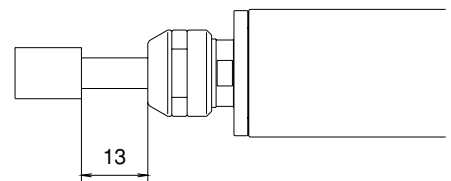

Fig.36
②Do not exceed 13mm overhang for mounted grindstones. In case overhang must exceed 13mm reduce the motor speed in accordance with **Fig.36**.
③Do not use tools with bent or broken shanks, cracks or excessive runout.
④Dress the grindstone prior to use.
⑤For grinding the maximum depth of cut should not exceed 0.01mm radially or axially. Reciprocate the tool several times after each in feed step.
⑥Always operate tools within the tool manufacturer's recommended speed limits. Use of a tool outside of the manufacturer's recommended speed limits could cause damage to the spindle and injury to the operator.
⑦Keep the tool shank and collet clean. If contaminants are left in the collet they can cause excessive runout and damage the tool and spindle.
⑧Do not drop or hit spindle.